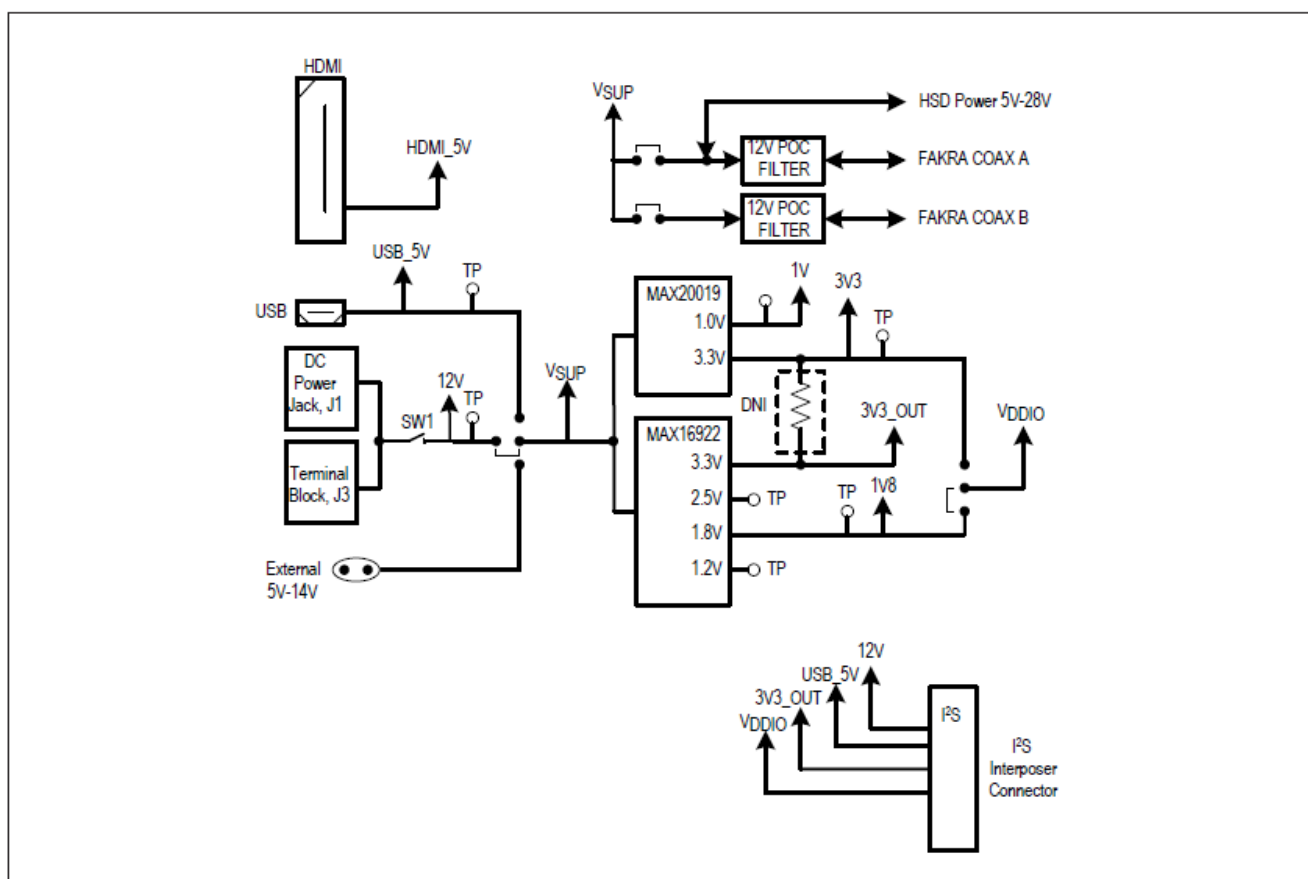

Figure 4. Serializer Evaluation Board Power Connection Diagram
5. Connect the +12V wall DC power supply into J1. See Figure 4 for power supply details.
The power configuration of the EV kit hardware may be re-configured to allow external supply connections. Figure 4 shows the power connection options.